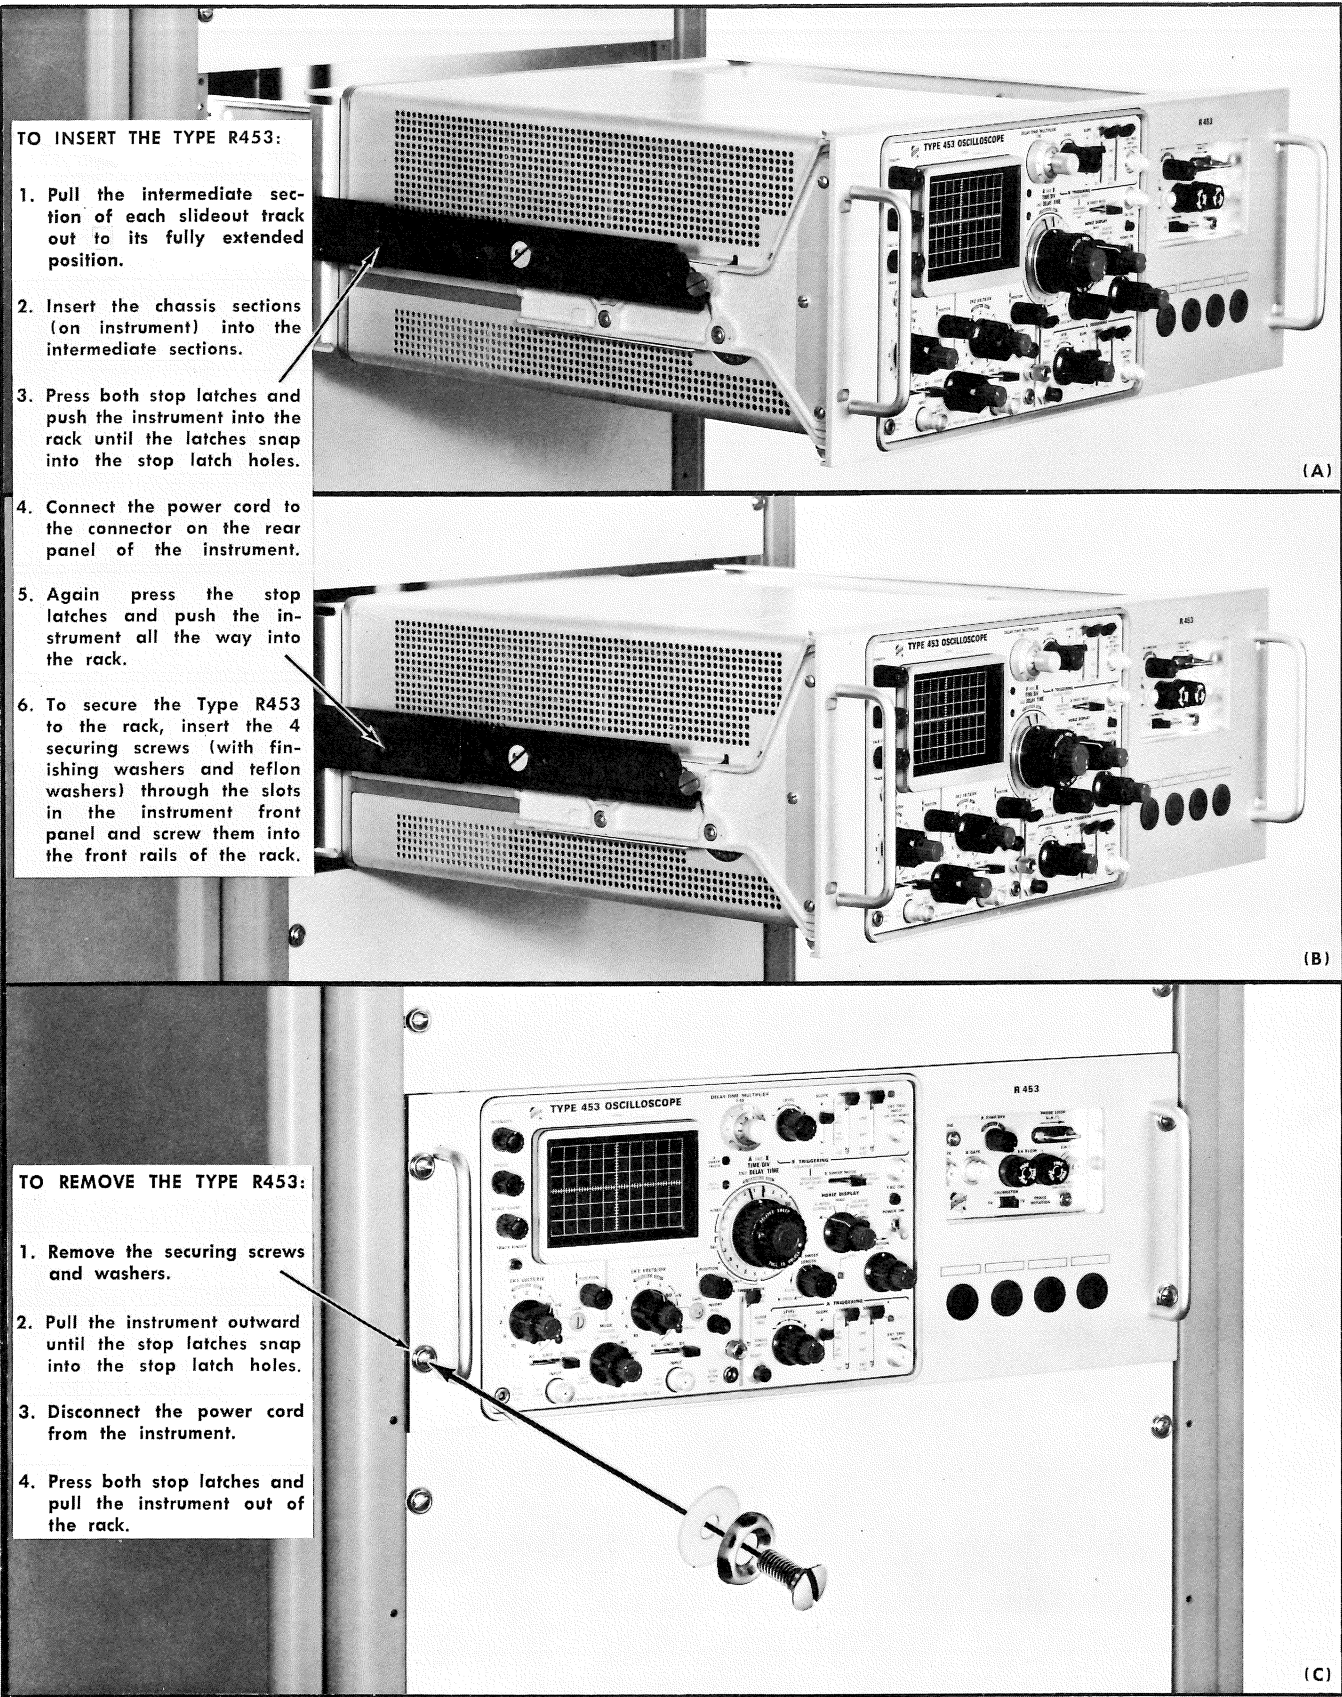

Fig. 10. Procedure for inserting or removing the instrument after the slideout tracks have been installed.
5. Refer to Fig. 10 to insert the instrument into the rack. Do not connect the power cord or install the securing screws until all adjustments have been made.
After initial installation and adjustment of the slideout tracks, the Type R453 can be removed or installed by following the instructions given in Fig. 10. No further adjustments are required under normal conditions.